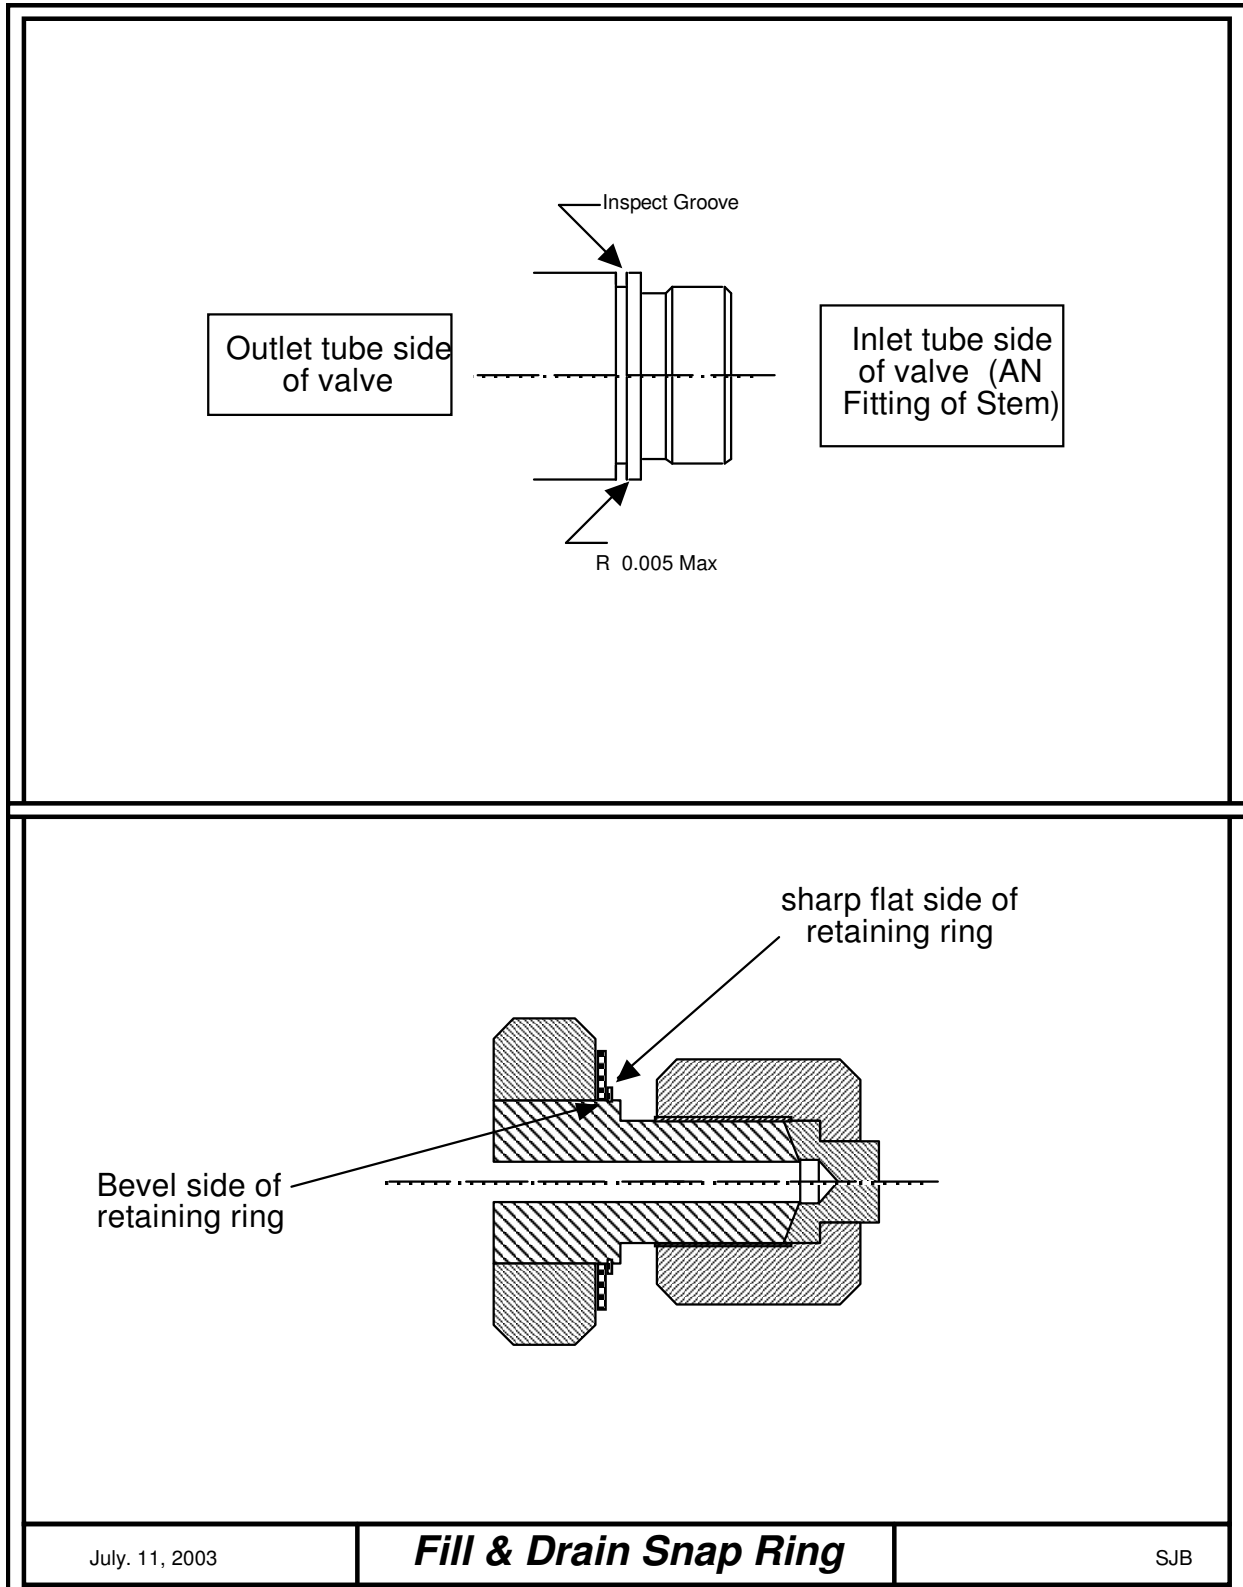

Figure 1
- G.3.2 Install the retaining ring on over the AN fitting of the valve stem and into the retaining ring grove per figure 1. Verify that ring spins /rotates in groove.
- G.3.4 Re-install tube cap and new conical seal onto AN fitting of valve stem. (See **fig 1**)